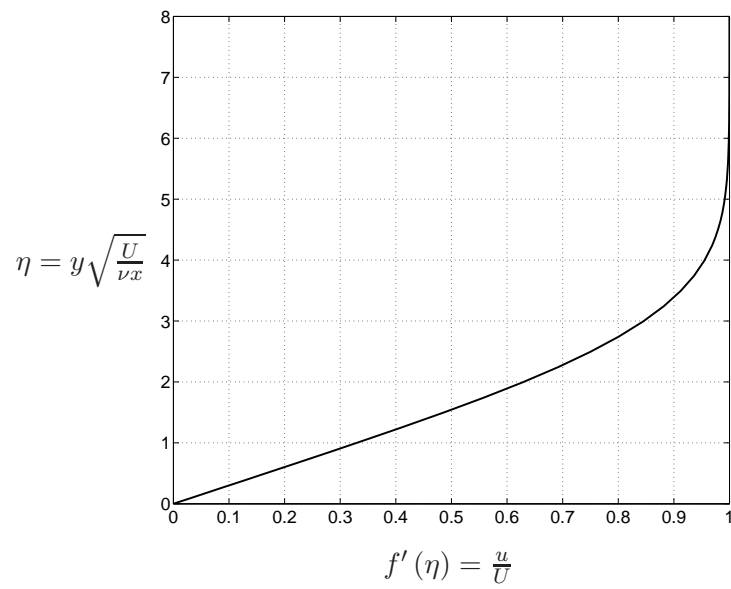

Figure 3: Blasius solution.
- Estimate the downstream position  $x$  of the pitot tube. Assume laminar flow, so you can use the Blasius solution given in Figure 3.
What is the shear stress at the wall? *Hint:* use Figure 3 to determine the derivative.